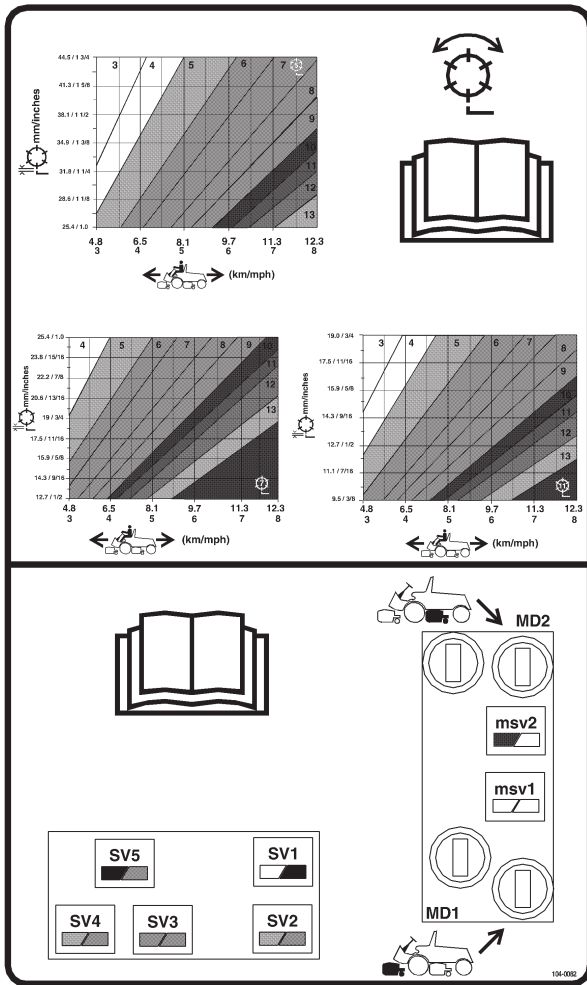

Figure 27
- Using the appropriate graph (See figure 27) for 5, 7 or 11 blade cutting units, determine the proper reel speed setting.